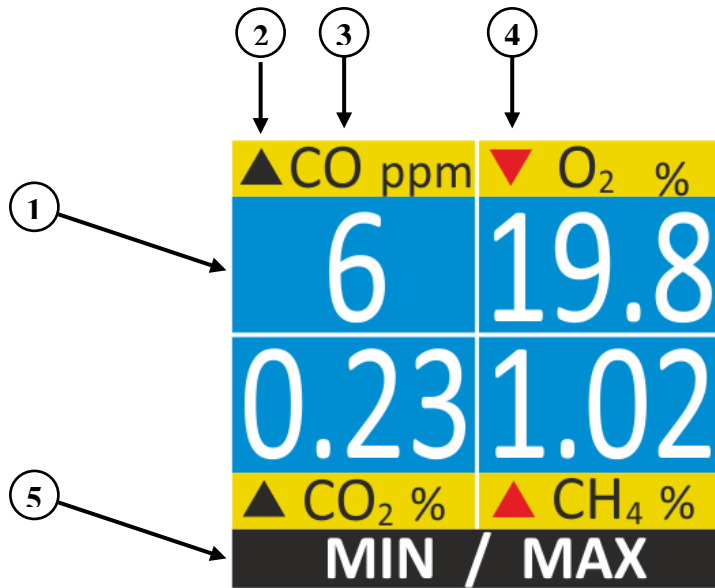

Figure 7. Extreme Measured Values Display Mode
5. EXTREME MEASURED VALUES DISPLAY MODE. This mode displays the maximum (for methane, carbon monoxide and carbon dioxide channels) and minimum (for oxygen channel) measured values during the period after switching on the detector (See 1 in Figure 7). In this mode «▼» and «▲» symbols (2) are displayed next to the measured parameter (3), while time indication is replaced by «Min/Max» sign (5). Background light is changed to blue in order to distinguish this mode from Measured Data Mode. In case the maximum permissible concentration is exceeded, «▼» or «▲» symbols will turn red (4).